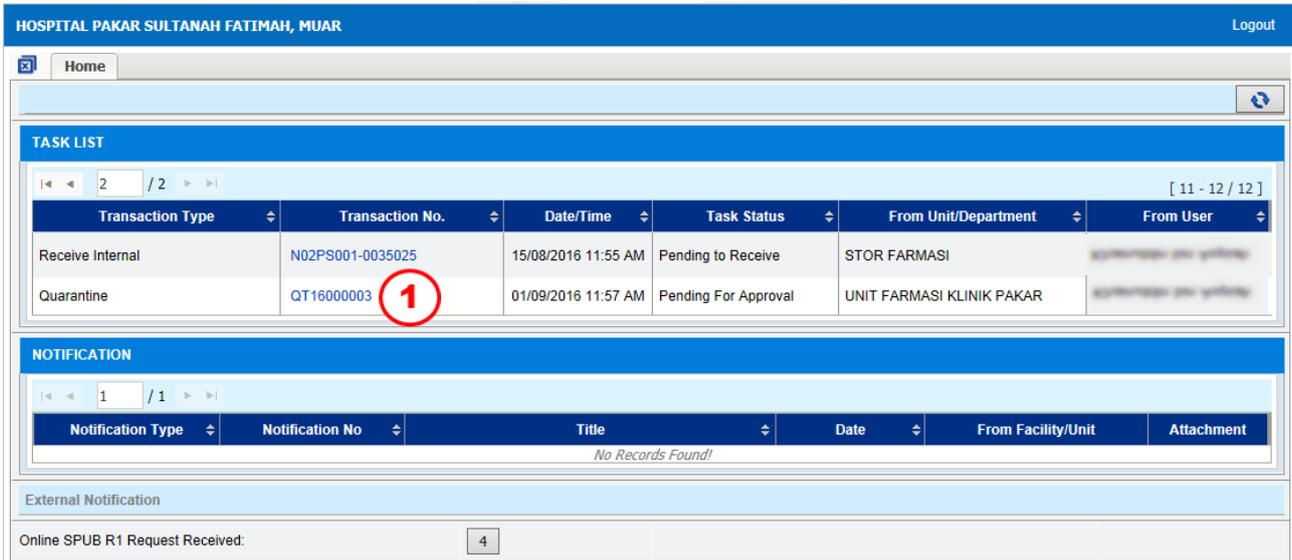

**Figure 3.3-3 Message Information**
- Click on the  button in Figure 3.3-3.